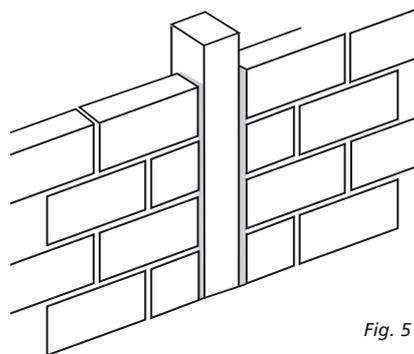

Fig. 5
- Abutments of walls and columns and junctions of dissimilar materials (see Figure 5).